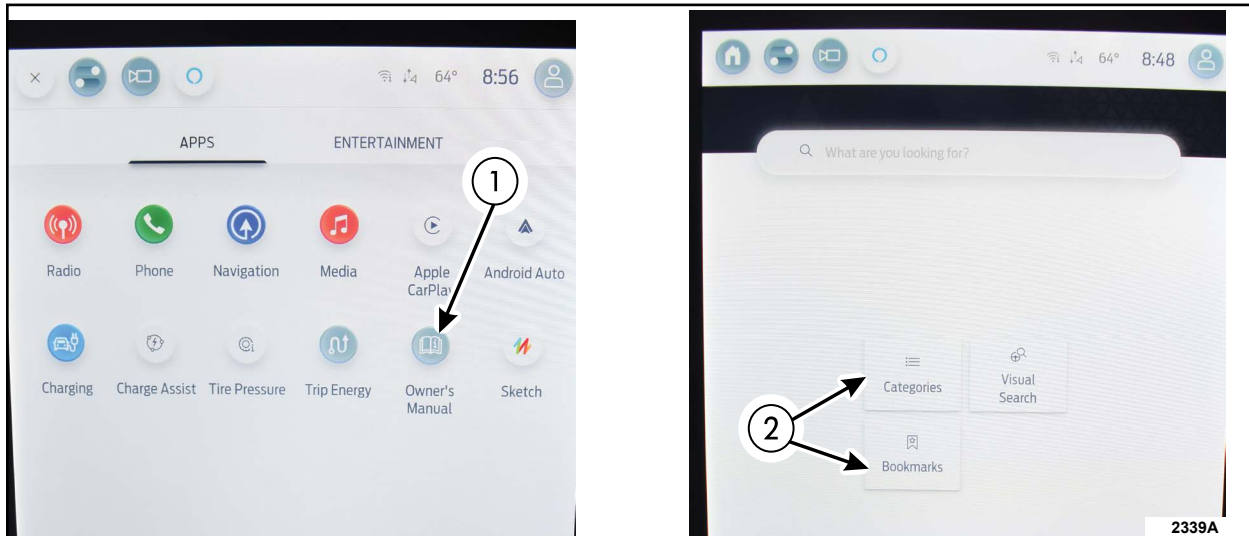

FIGURE 1
1. Click the Owner's Manual button on the SYNC screen. See Figure 1.
2. Click the Categories or Bookmarks button. See Figure 1.